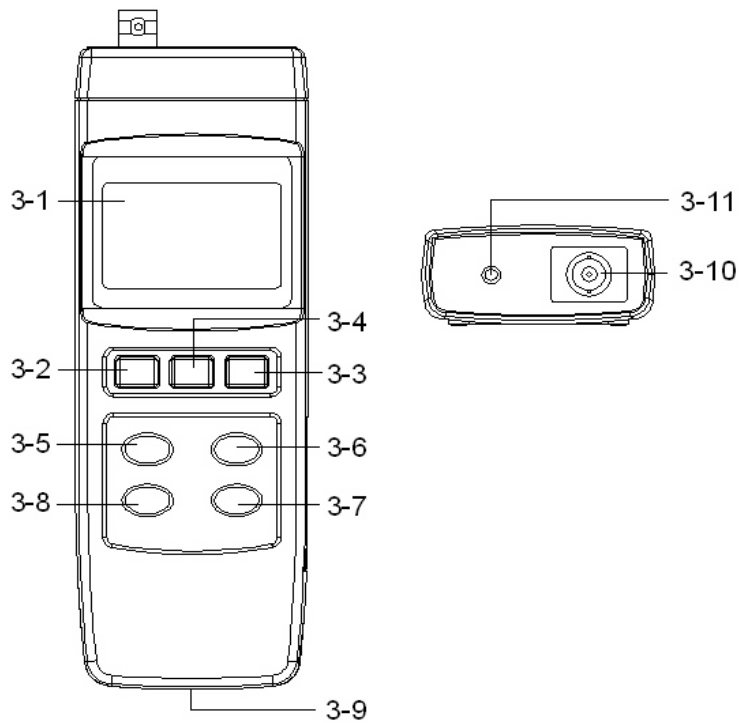

Fig. 1
- 1) Power on the instrument by pressing the " Power Button " ( 3-2, Fig. 1 ).
- 2) Press the " PH/mV Button " ( 3-6, Fig. 1 ) to let meter be operated under the PH function with a " PH " symbol on the display.
Connect the PH ELECTRODE with the " BNC socket " ( 3-10, Fig. 1 ) and immerse the electrode in the PH7 buffer solution.
Press the " CAL Button " ( 3-8, Fig. 1 ) then the upper display shows texts of " CAL " and the lower display shows the default calibration value.
- 1) Connect the PH ELECTRODE to the " PH BNC Input Socket " ( 3-10, Fig. 1 ).
- 2) Power on the instrument by pressing the " Power Button " ( 3-2, Fig. 1 ).
- 3) Press the " PH/mV Button " ( 3-6, Fig. 1 ) to select the PH function with a "PH" symbol on the display
Before the manual temperature compensation calibration procedures, please make sure there are no ATC probe ( TP-07 ) in the " Optional Probe Input Socket" ( 3-11, Fig. 1 ).
- 2) Press the " PH/mV Button " ( 3-6, Fig. 1 ) to select the PH function with a " PH " symbol on the display
- 3) " TEMP. C Button " ( 3-7, Fig. 1 ) is used to adjust the following values :
- \* **Press the " TEMP. C Button " ( 3-7, Fig. 1 ) first,**
- @ Use the " Left Button " ( 3-6, Fig. 1 ), " Up Button " ( 3-5, Fig. 1 ) and the " Down Button " ( 3-8, Fig. 1 ) to adjust the manual temperature compensation value.
- \* **When the manual temp. compensation values be adjusted. Press the " TEMP. C Button " ( 3-7, Fig. 1 ) once again to adjust the PH 4 default calibration value.**